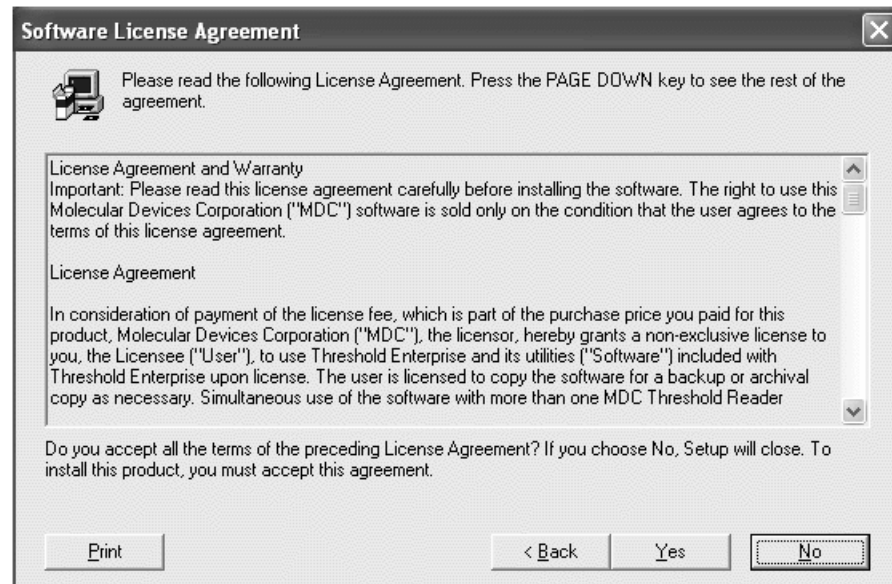

Figure E-2: Software License Agreement Screen
- 6) Please read the License Agreement completely (Figure E-2).